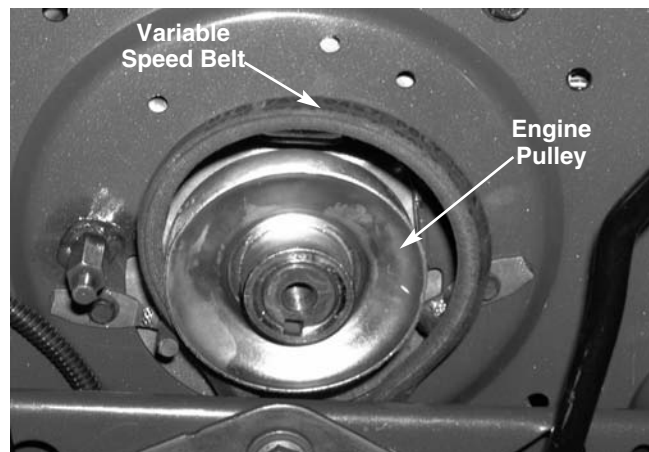

FIGURE 8.
- 10). Slowly lower the engine drive pulley and remove the variable-speed belt. See figure 8.